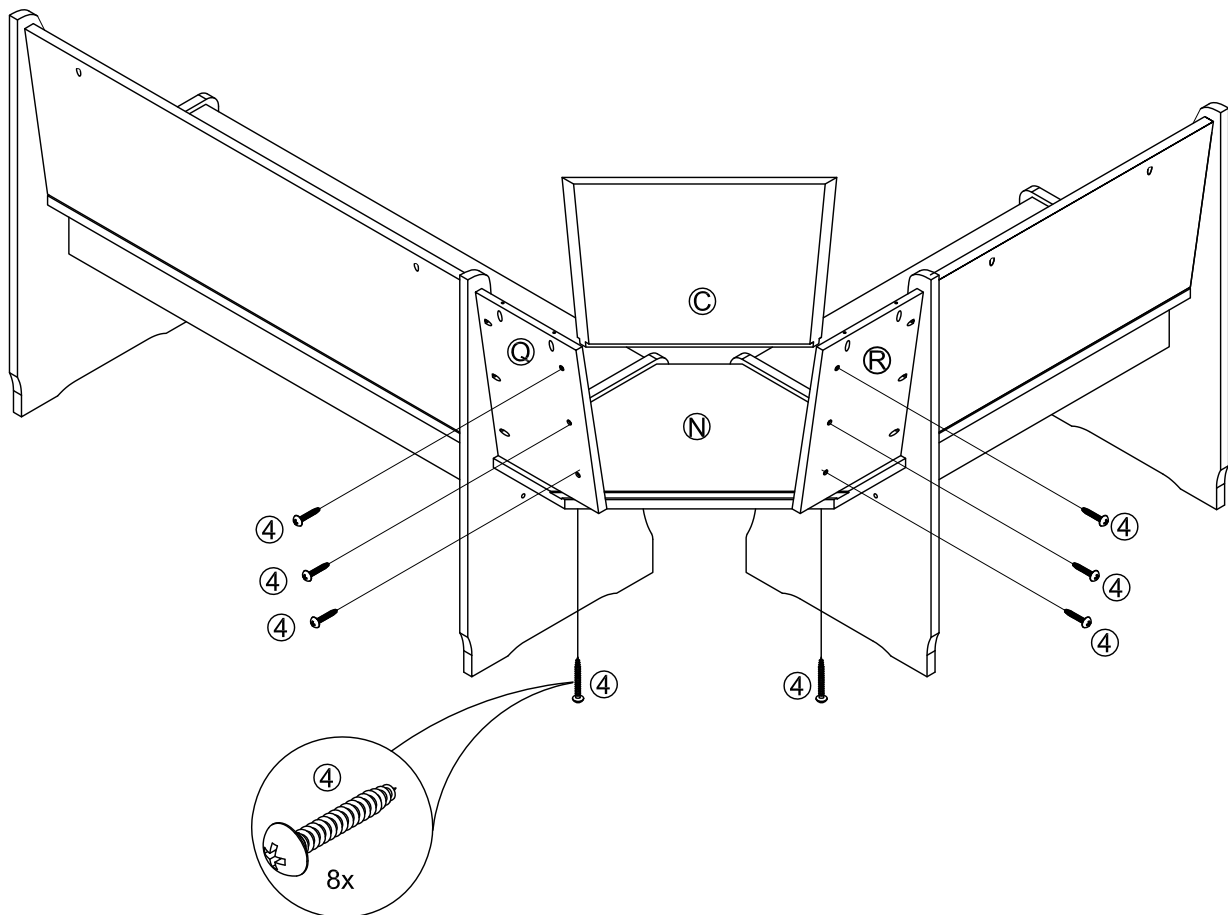

FIGURE 6
- 6.1 CONNECT CENTER BACK PANEL #C WITH CORNER BACK PANEL #Q AND #R. INSERTING (06) SCREWS ④ THROUGH HOLES LOCATED UNDERNEATH OF CORNER BACK PANEL #Q AND #R REACHING THE CENTER BACK PANELS #C. THEN INSERTING (02) SCREW ④ THROUGH THE PILOT HOLE YOU WILL FIND UNDERNEATH OF CORNER SHELF #N INTO THE CORNER BACK PANEL #Q AND #R, AS SHOWN IN FIGURE 6.